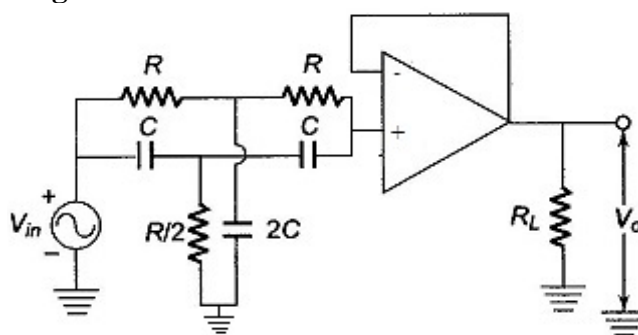

Figure 12.2 Circuit diagram of Narrow band reject filter
2. Connect the circuit as per the circuit diagram show in fig 12.2.